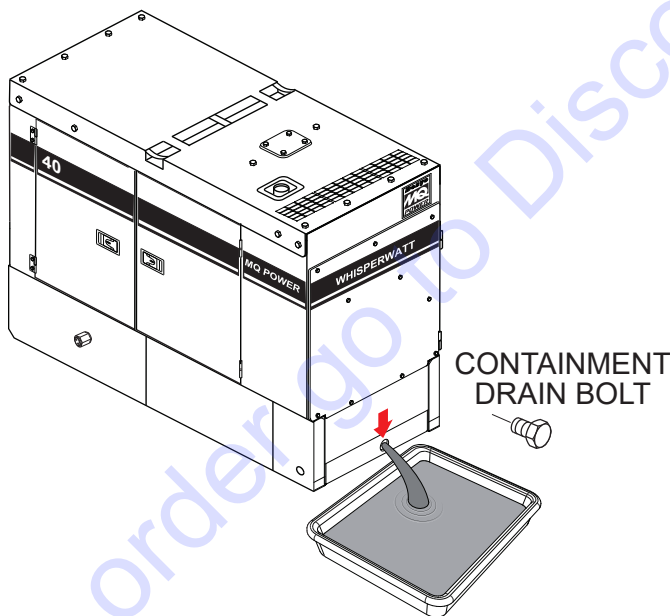

Figure 61. Draining Containment Tank
2. If the tank becomes full with fluids, remove the drain bolt (Figure 61), then allow the fluids to drain into a suitable container.